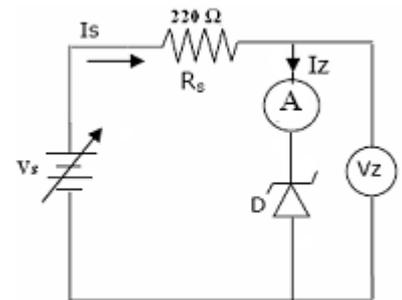

Figure 2
- 1) The **voltage regulator circuit**: is required to maintain a constant dc output voltage across the load terminals in spite of the variation in the input main voltage (V_s) or Change in the load current (I_L). The Zener voltage regulator circuit shown in Figure 2 consists of a current limiting resistor R_S (to protect the Zener diode from high current at no load condition) connected in series with the input voltage V_s and Zener diode
- Construct the circuit shown in Figure 2 by using **Zener** diode. (*Make sure the diode is connected with the correct polarity*).